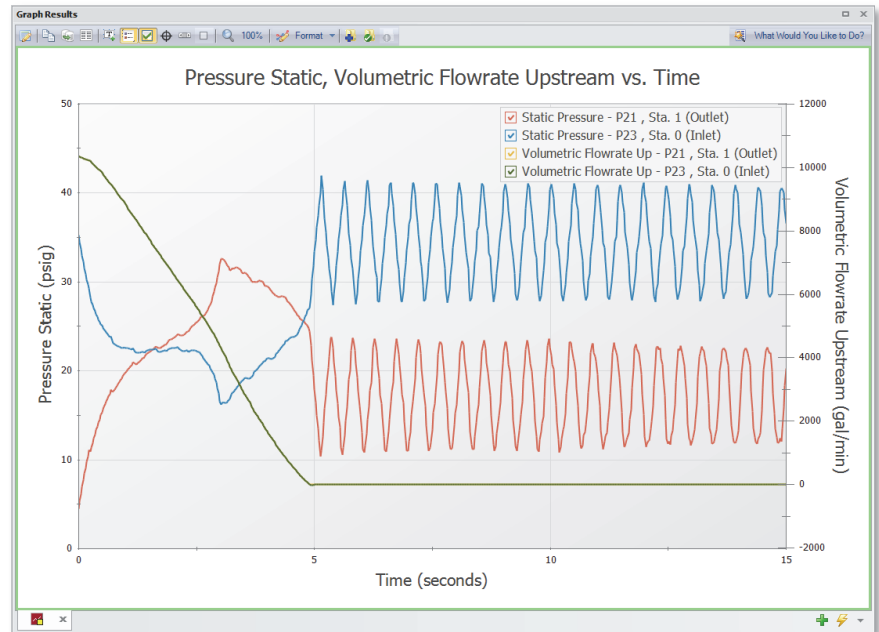
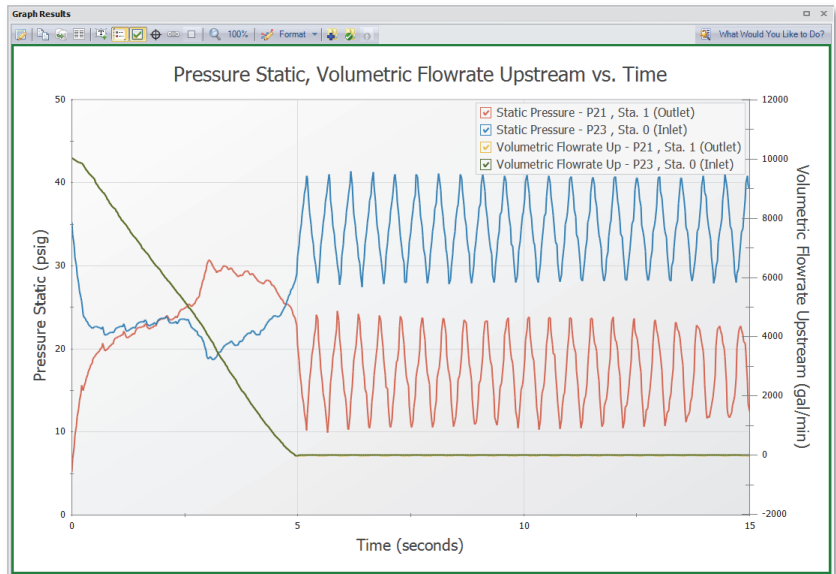

Figure 4.3 Pressure and volumetric flow rate transients using the standard pump curve data.
Figure 4.7 Pressure and volumetric flow rate transients using a Four Quadrant Curve dimensionalized at the BEP.
7. Click the Generate button. The resulting pressure and flow transients are shown in Figure 4.3.
In Figure 4.3 you can see that the pressure increases at the pump inlet and decreases at the valve outlet until a maximum pressure of 32.6 psig at the pump inlet and a minimum pressure of 16.2 psig at the valve outlet is reached. The pressures then begin to oscillate once the discharge valve becomes fully closed.
Using the Scenario Manager load each of the four quadrant scenarios and run them, then go to the Graph Results tab. For each scenario generate the “Pump Suction & Valve Outlet Pressures and Flows” graph by double clicking the graph name in the Graph List Manager on the Quick Access Panel. The results for each of the scenarios can be seen in Figures 4.7 and 4.8. In comparing the transient results for the two four quadrant scenarios, there are no major visible differences.
Comparison between the four quadrant graphs (Figure 4.7 & 4.8) and standard pump curve graph (Figure 4.3) reveals that while the results are similar, there is a visible difference of about 1 psig between the maximum and minimum points in the four quadrant scenario graphs and the standard pump curve scenario graph. These differences can be attributed to the small flow oscillations that are neglected in the standard pump curve scenario due to the internal check valve.